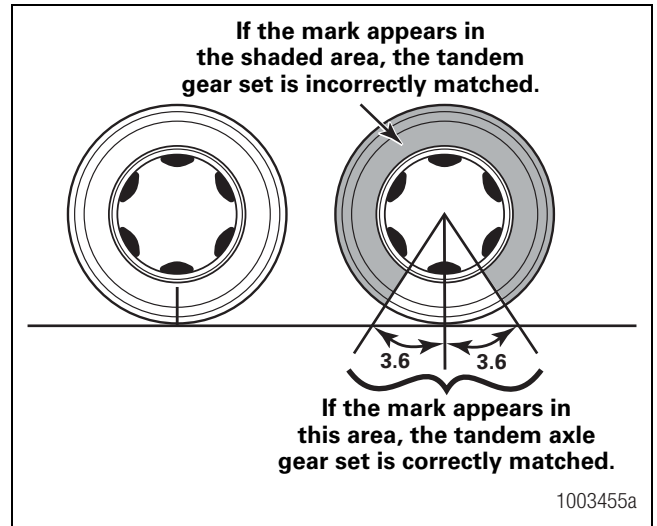

Figure 4.18
- Note the positions of the tire marks you previously made. On a correctly matched tandem axle gear set, both tire marks will be within  $\pm 3.6$  degrees of each other. Figure 4.18.